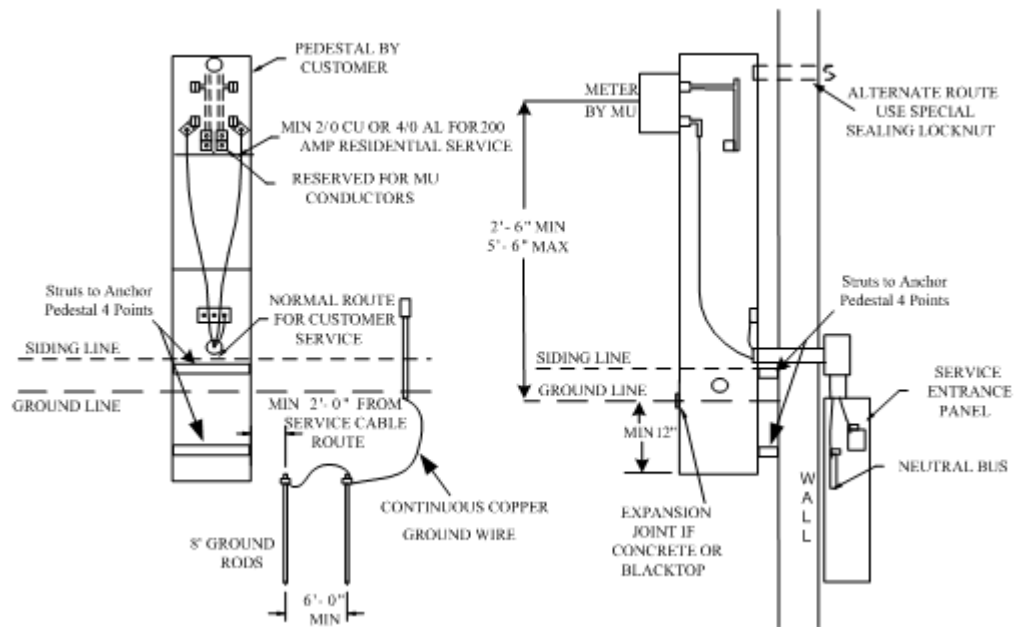

Figure 3-5
The main disconnect must be located within 8' of where the services entrance cable or raceway enter the building. Figure 3-5 depicts the main entrance in the traditional location. Also consult the previous sections of this chapter for proper sizing of the grounding conductor. All new and upgraded underground services shall be installed to the existing foundation wall by means of two (2) horizontally or vertically installed pieces of unistrut with four points of contact and secured at the top of the meter pedestal per manufacture requirements. Treated Lumber will not be accepted.